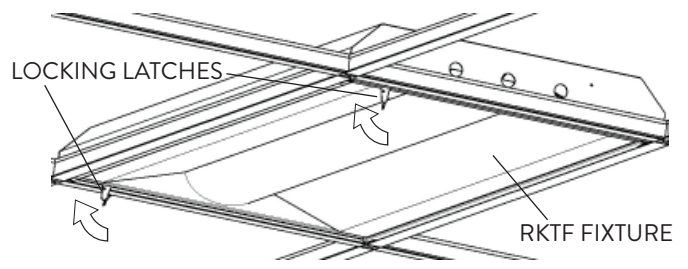

FIG. 9
- 7 Rotate the both Locking Latches upwards into the slots of the End Brackets (Fig. 9 & 10).